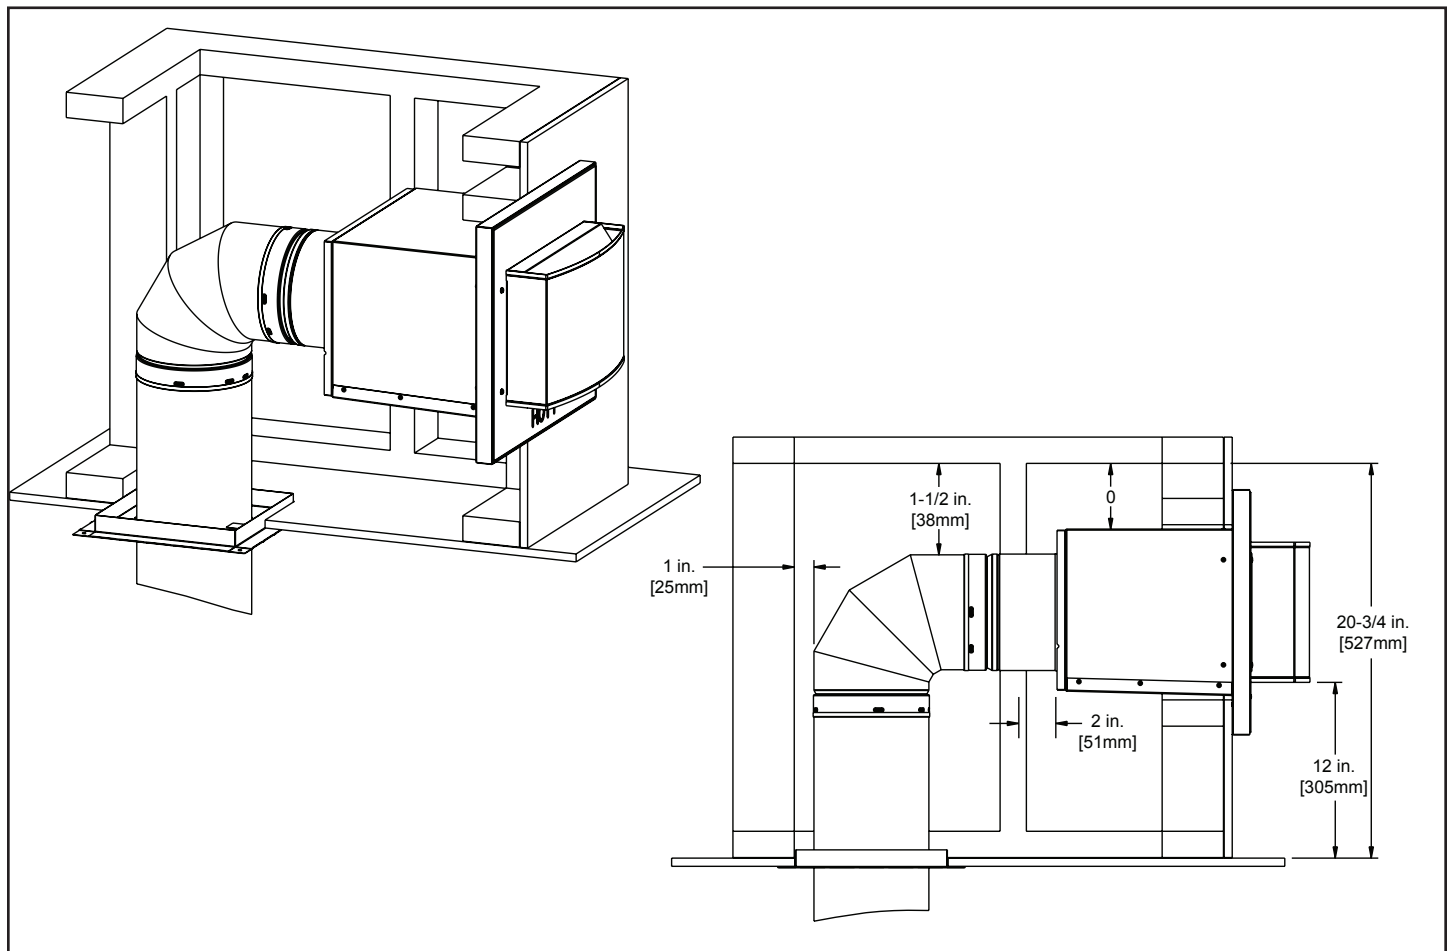

Figure 3.4
1. If the PVLV-SLP is going to terminate on a flat roof, an enclosure similar to the one shown in Figure 3.4 will need to be constructed.